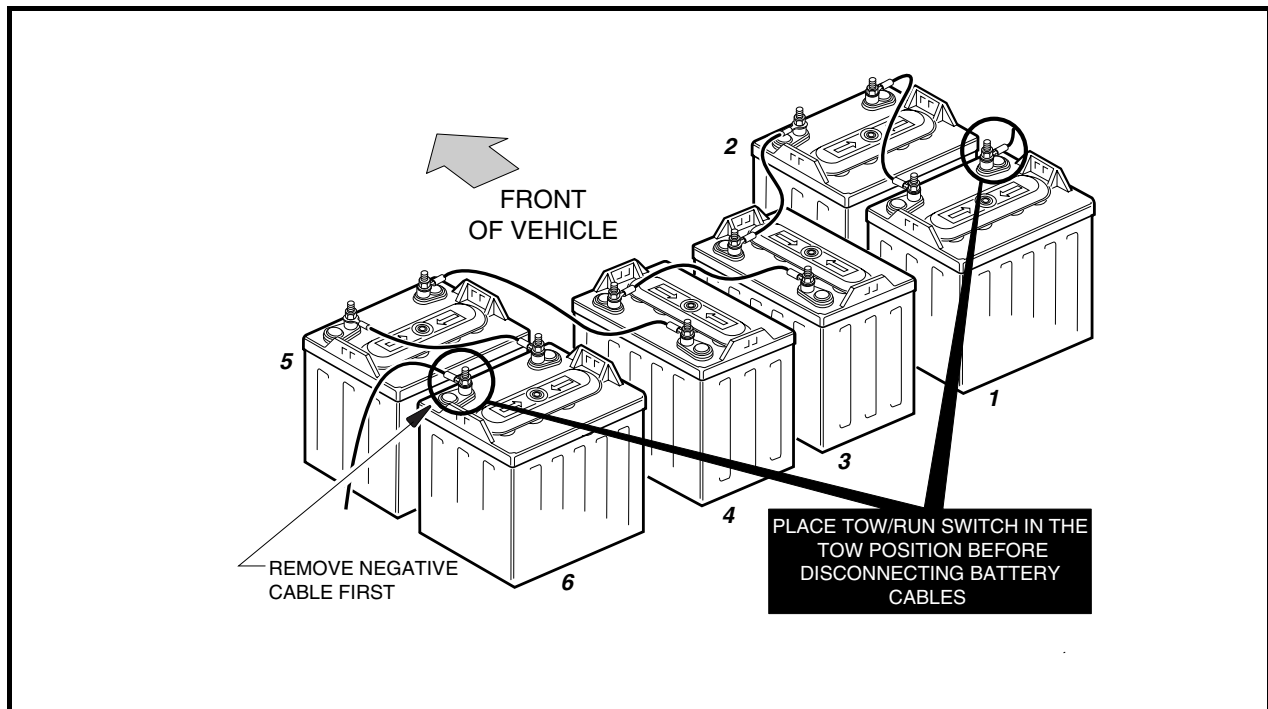

Figure 13-5 PowerDrive Plus Battery Configuration
- TO AVOID UNINTENTIONALLY STARTING THE VEHICLE, PLACE THE TOW/RUN SWITCH IN THE **TOW** POSITION AND DISCONNECT BATTERIES AS SHOWN IN **FIGURE 13-5, PAGE 13-4**.
1. Before removing batteries, note the orientation of the batteries and the connecting wires. First, place the Tow/Run switch in the TOW position. Disconnect the batteries and discharge the controller as described in the WARNING on page 13-1. Then remove remaining wires and batteries. **See Figure 13-5, Page 13-4 for PowerDrive Plus Vehicle battery wiring.**
5. Install batteries in the proper orientation (**Figure 13-5, Page 13-4**). Install battery hold-downs. The hold-downs should be tight enough so batteries do not move while vehicle is in motion, but not so tight as to crack or buckle battery case. Tighten to 40 in.lb (4.5 N-m), alternating between hold-down bolts.
6. Install wires in proper sequence (**Figure 13-5, Page 13-4**). Install black wire to negative post of battery No. 6 last. Make sure all connections are tight. Tighten to 110 in.lb (12.4 N-m). Coat all terminals with Battery Protector Spray (CLUB CAR Part No.1014305) to minimize future corrosion.
When the batteries are fully charged, disconnect the charger DC plug. Wait 20 to 30 seconds and reconnect the DC plug to restart the charger. After 5 minutes, use a multimeter to check and record the voltage of the battery set as well as the individual batteries. Set the meter to 200 volts DC. Place the red (+) probe at the positive post of battery No. 1 and the black (-) probe at the negative post of battery No. 6 (**Figure 13-5, Page 13-4**). Record reading. Then set multimeter to 20 volts DC and place the red (+) probe at the positive terminal and the black (-) probe at the negative terminal of each battery. Record the readings.